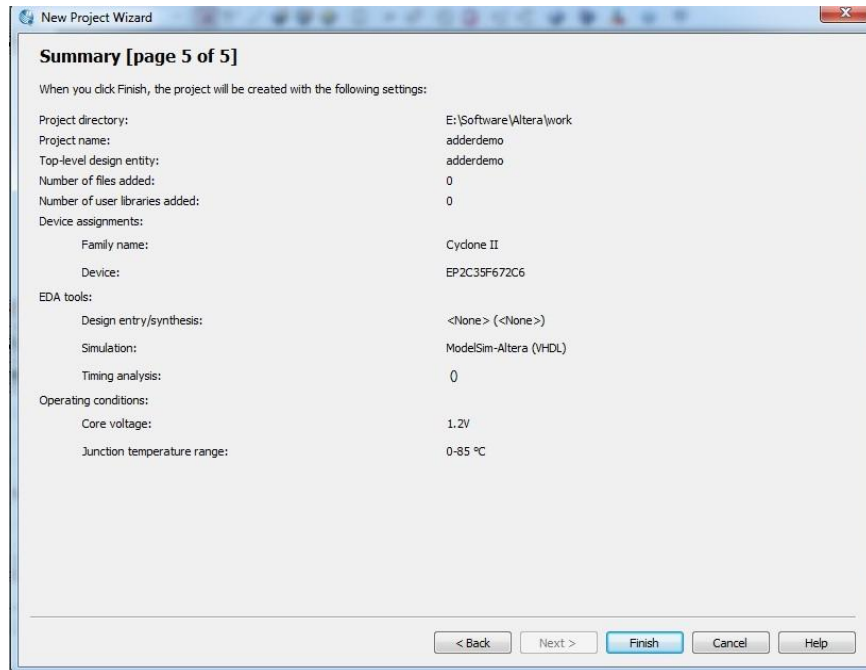

Figure 5
- Click **Next** and a summary of settings will be shown to you as in Figure 5.